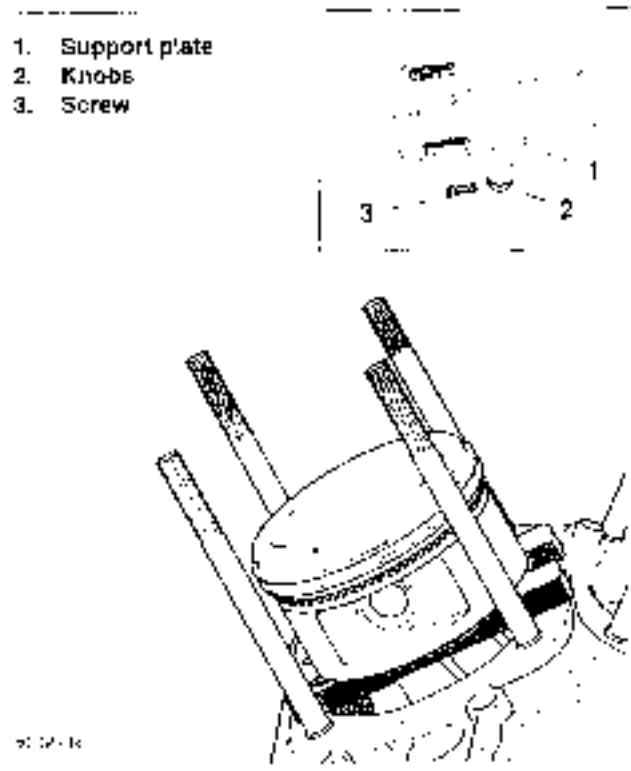
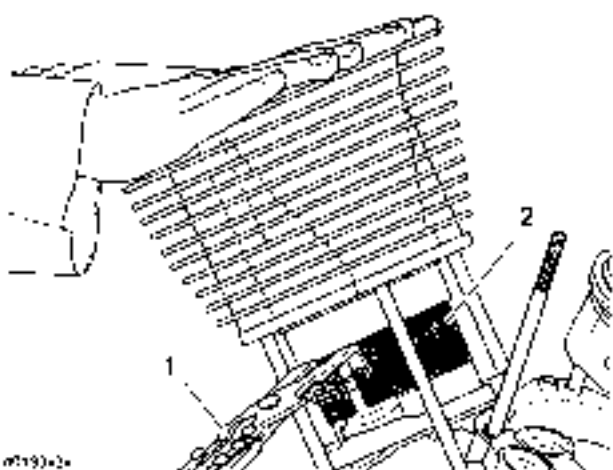

Figure 3-35. Piston Support Plate (Part No. HD-42322)
Figure 3-36. Piston Ring Compressor
6. See Figure 3-35. Install the PISTON SUPPORT PLATE (Part No. HD-42322).
- a. Slide both adjustable knobs (2) on support plate (1) down away from forked end. Tighten knobs when contact is made with fins at end of slots.
7. See Figure 3-36. Install cylinder using PISTON RING COMPRESSOR (Part No. HD-96333-510).
- a. Fit tabs on pliers (1) into slots of ring compressor band (2). The arrow stamped on the band indicates the side that faces up, so disregard the word "bottom." Place band around piston. Press the lever on the right side of the pliers to open the jaws for band expansion.